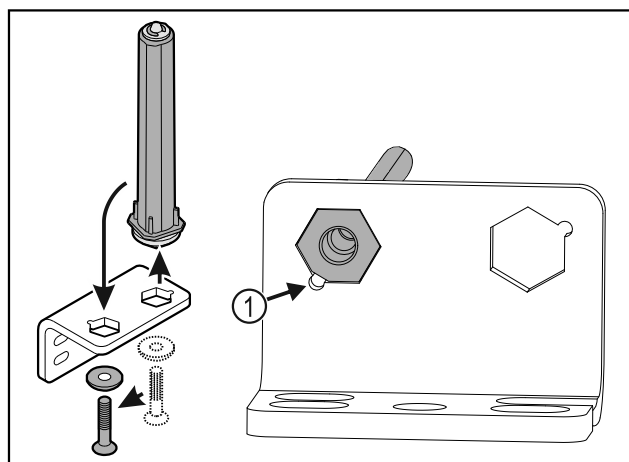

Fig. 23
- Make sure the pin chamfer *Fig. 23 (1)* faces the round hole when you put it in.